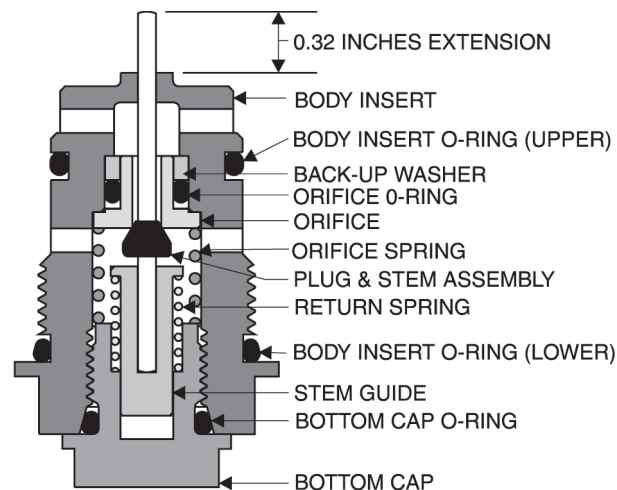

Figure 9
3. **Control Action:** Inspect to make sure the Body Insert Assembly (Cartridge) is in pressure reducing mode. The Series 20L pilot utilizes the same reversible Body Insert Assembly as the Series 20/20S/20H/20 HS Pilots. The Series 20L Pilot MAY NOT be used in the Back Pressure (BPV/Relief) mode to control the Flowgrid Valve, because the maximum Series 20L Pilot set point range is below the minimum differential required to open the Flowgrid valve. Remove the Body Insert Assembly and measure the stem extension as shown below to confirm the pilot is in pressure reducing mode. If incorrect, follow the Body Insert Assembly disassembly and assembly instructions in the MAINTENANCE section of this manual (refer to Figure 9 and/or Page 16).
1. Single Port Regulator (PRV). (Fig. 9)